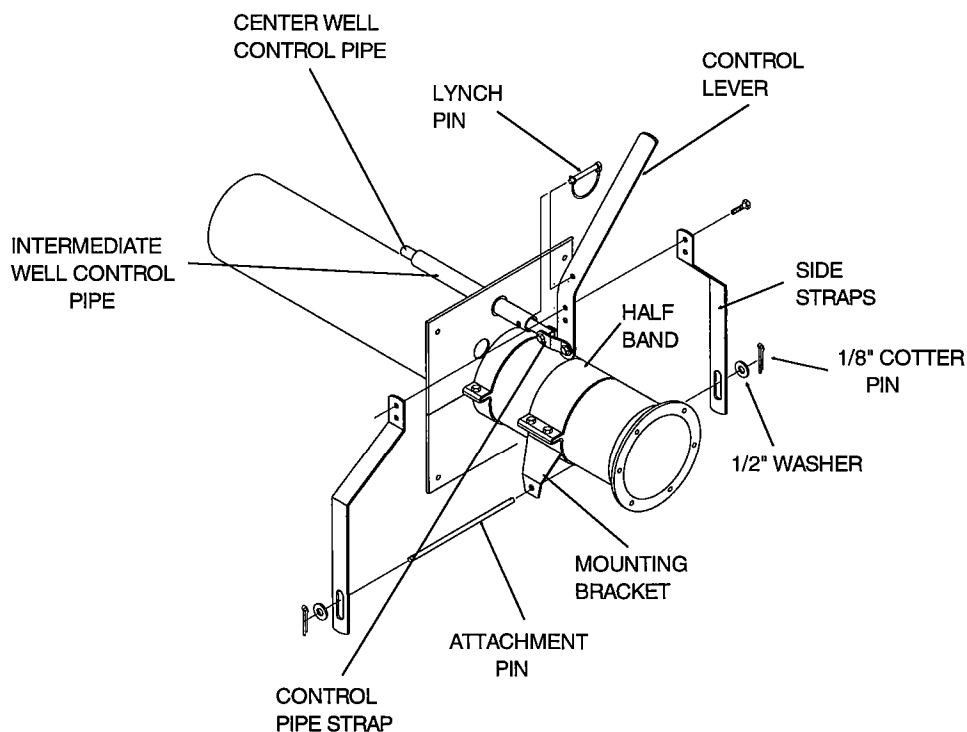

FIG. 15
8. Install control lever assembly onto the unloading tube. (See Fig. 15.)
- C. Locate mounting bracket and half band approximately 4" from end of center well control pipe. Bolt half band to bracket with (4) 5/16" x 1 1/2" long bolts and (4) 5/16" non-lock nuts.
- E. Bolt the side straps to the control lever with (2) 5/16" x 1 1/4" long bolts and nylon lock nuts.